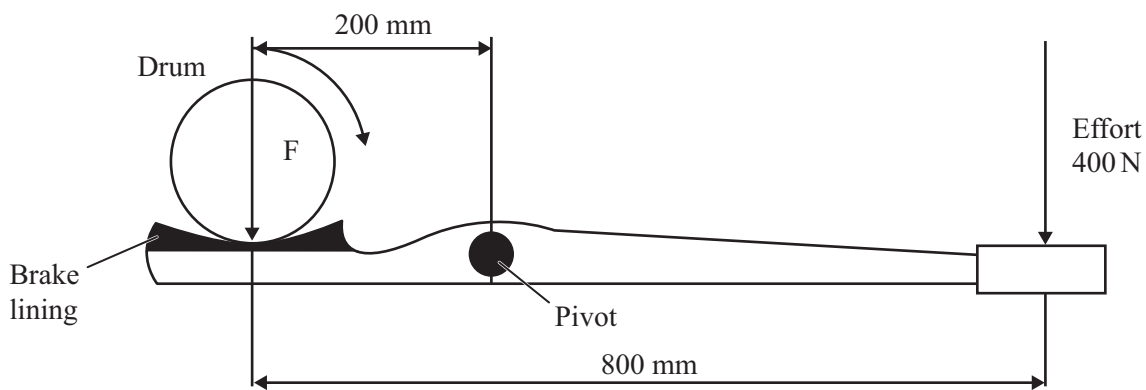

Fig. 30
- (b) **Fig. 30** shows a foot brake system.